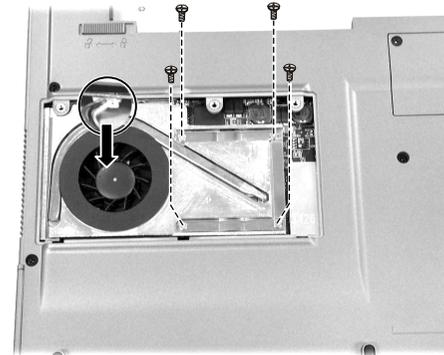

Figure 2-22 Remove the CPU heatsink
3. Remove four screws that fastening the heatsink with the spring holder. (See Figure 2-22)
4. Unplug the fan assembly's power cord to free the heatsink from the CPU module. (See Figure 2-22)